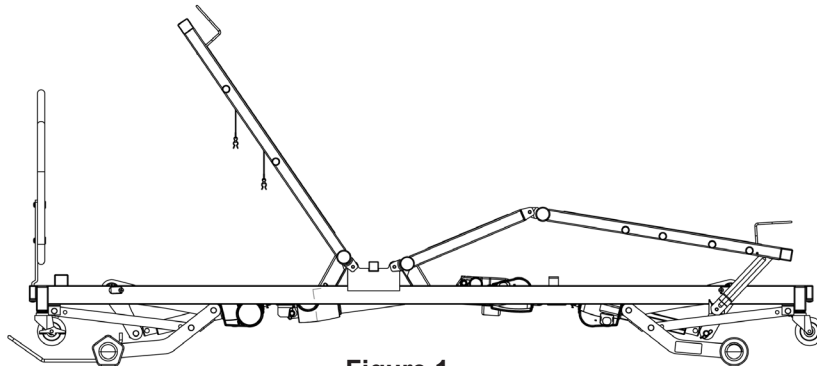

Figure 1
1. Raise the back and foot sections of the bed as shown in Figure 1. You may also raise the bed frame to a comfortable working height if necessary.